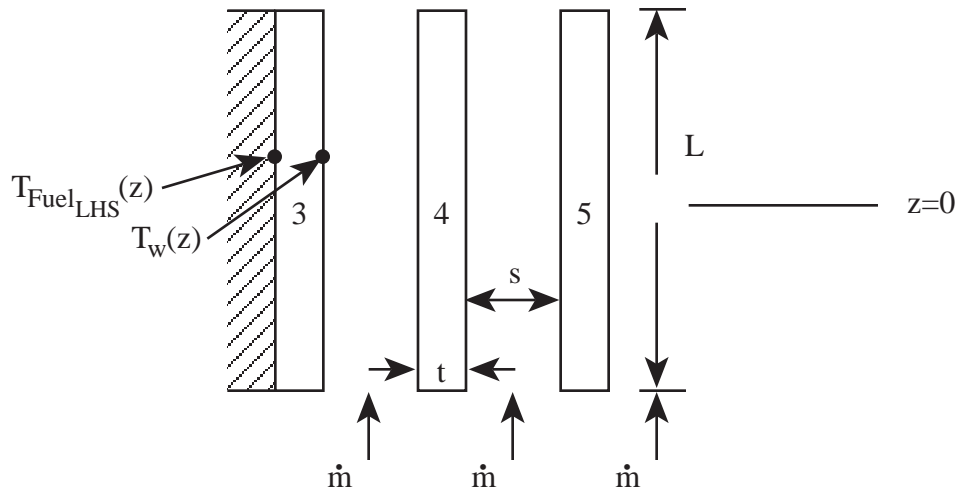

Figure 3
- All of the energy generated in plate 3 flow radially to the right to the coolant channel between elements 3 and 4, i.e., the left side of element 3 has an insulated boundary (see Fig. 3).